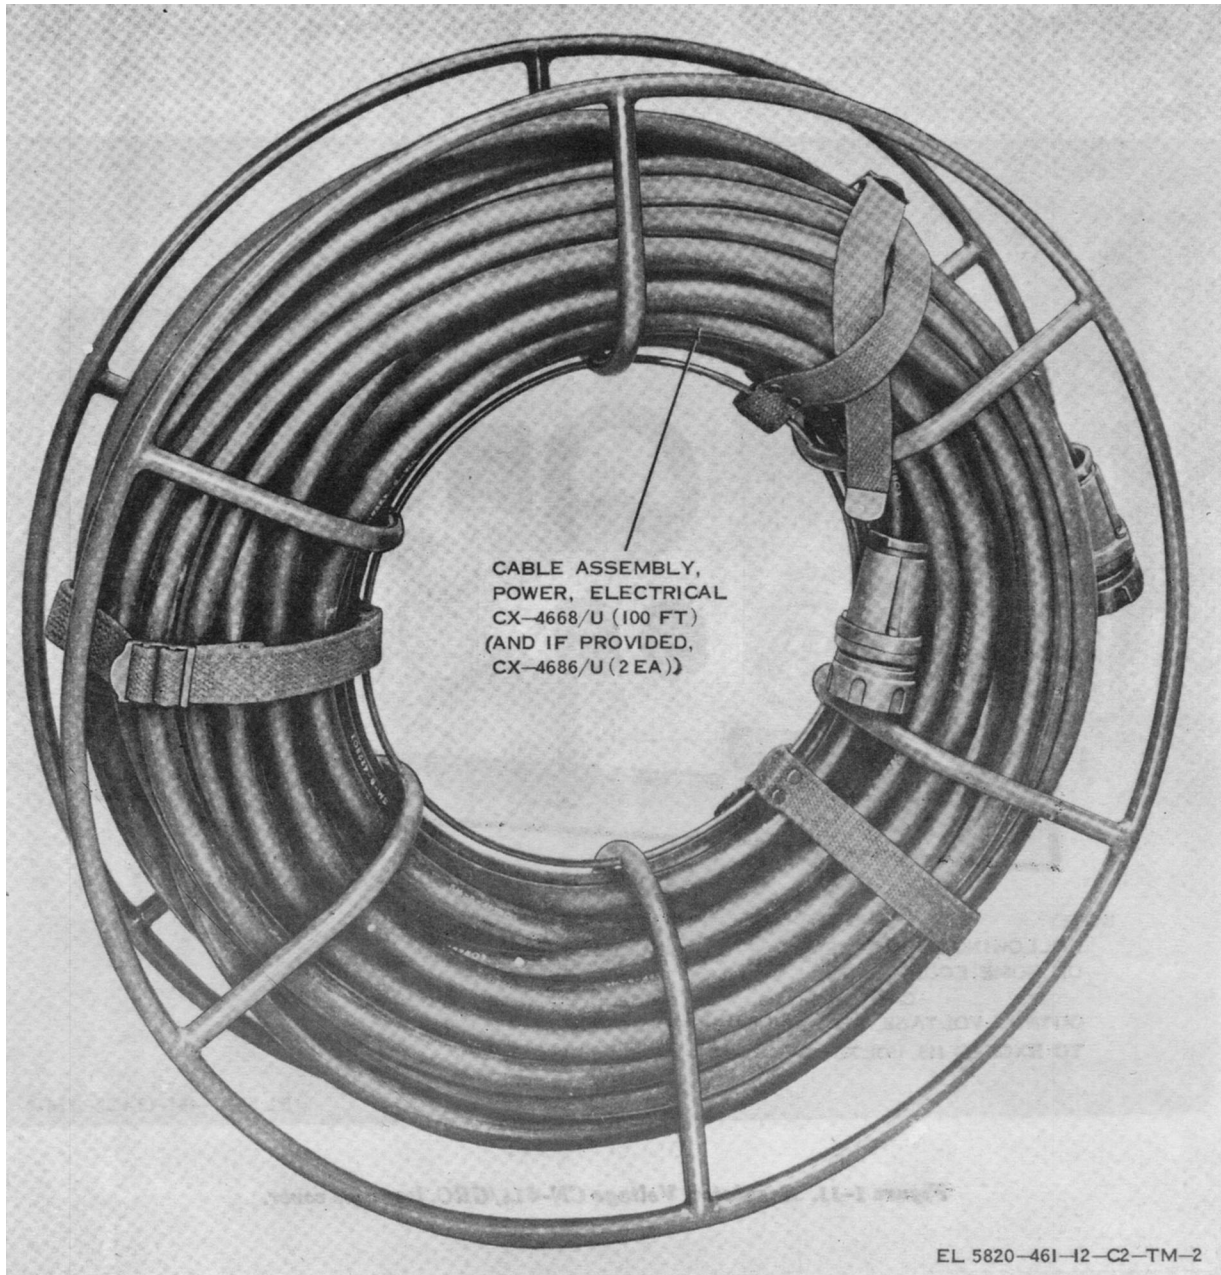

Figure 1-12. Reel, Cable RC-404/TR, with cables mounted on it.
a. *Power Cables* (fig. 1-12). Reel, Cable RC 404/TR is used to carry and store two 10-foot sections of Cable Assembly, Power, Electrical CX-4686/U; and one 100-foot section of Cable Assembly, Power, Electrical CX-4668/U. The RC-404/TR is 24 inches in diameter and 6 inches in depth.